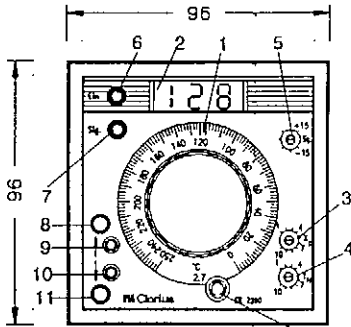
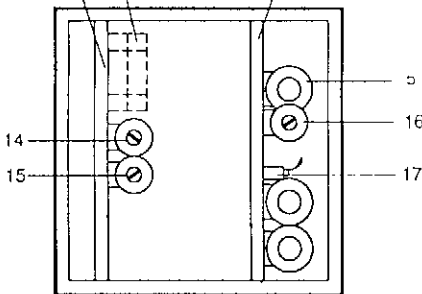

Fig. 1: Front view 1a
Fig. 3: Interior view behind the front pane
- 17 sliding switch to lengthen the reset time Tn (refer to fig 3)
b) Indicator (refer to fig 1, pos 2)
c) Manual control (refer to fig. 1, pos. 9, 10)
d) Setting range (refer to fig 1, pos. 1). The setting range appears from the setpoint potentiometer.
e) Signal unit (refer to fig 1, pos 5 & fig 3, pos 14)
g) Response sensitivity E (refer to fig 3, pos 15):
The controlled variable should experience an abrupt change of 10% of the setpoint range. This change of  $x$  results directly in a voltage pulse at the setting element output. The length of this pulse depends upon the set pulse proportioning factor  $T_p$  (adjusted with  $X_p$ -potentiometer, refer to fig. 3, pos. 3 and page 7). At a set pulse proport. factor of  $T_p = 2 \text{ s}/\%$ , for example, this pulse has a length of  $(2 \text{ s}/\%) \times 10\% = 20 \text{ s}$ , i.e. the valve motor runs for 20 s.
Xp: P-range (refer to fig.3, pos. 3)
Tp: pulse proportioning factor (refer to fig.3, pos. 3) saturation (refer to fig.3, pos 16) indicates a max. value of Xw, then continuous impuls follow.